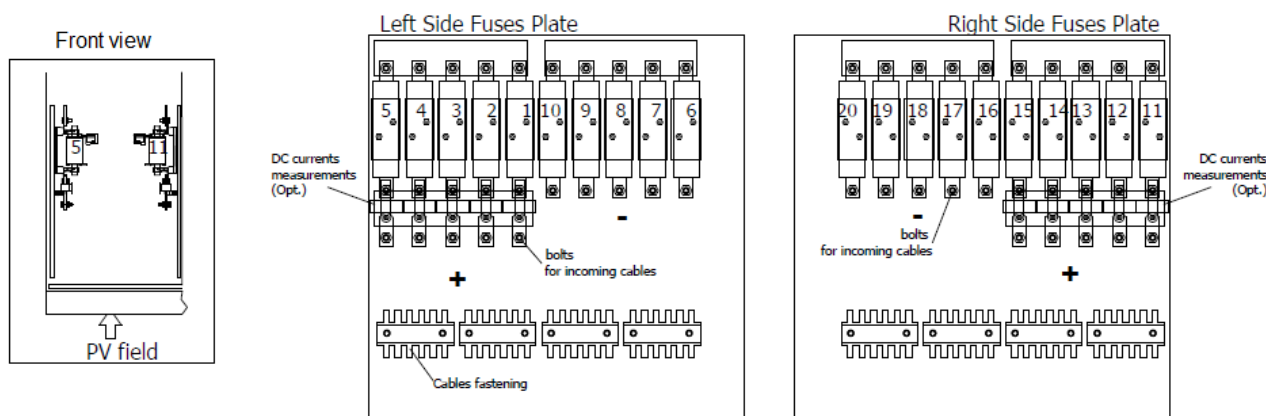

Figure 26: Configuration 1 of terminal board X2, floating PV field, 10 fuses on each pole
1. **Configuration 1** Floating PV field, 10 fuses per pole, 1 cable per fuse (Figure 26)